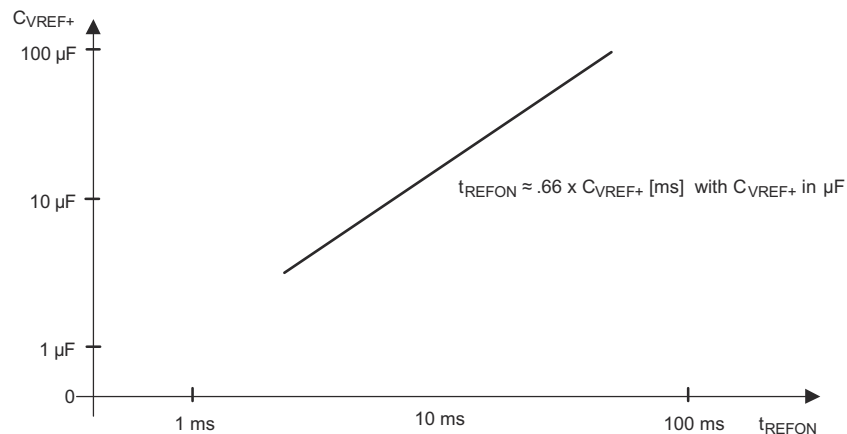

Figure 8-38. Typical Settling Time of Internal Reference t_{REFON} vs External Capacitor on V_{REF+}
| t _{REFON} | Settling time of internal reference voltage (see Figure 8-38)(2) (4) | I _{VREF+} = 0.5 mA, C _{VREF+} = 10 μF, V _{REF+} = 1.5 V, V _{AVCC} = 2.2 V | 2.2 V | | | 17 | ms | |
- (1) Not production tested, limits characterized
- (2) Not production tested, limits verified by design
- (3) The internal buffer operational amplifier and the accuracy specifications require an external capacitor. All INL and DNL tests use two capacitors between pins V_{REF+} and AV_{SS} and between V_{REF-}/V_{eREF-} and AV_{SS}: 10-μF tantalum and 100-nF ceramic.
- (4) The condition is that the error in a conversion started after t_{REFON} is less than ±0.5 LSB. The settling time depends on the external capacitive load.